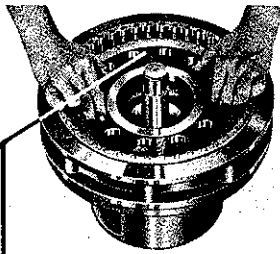

Fig. 12
- 3) Set the cycloid disc with the stamped number face up as shown in figure 12.